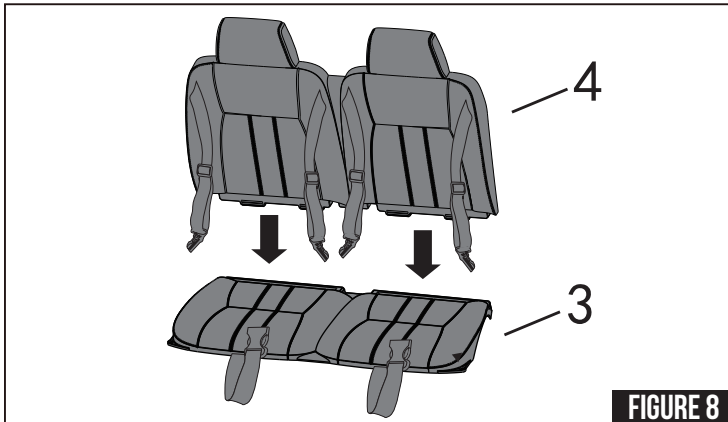

FIGURE 8
- To complete the seat assembly. Connect Backrest [4] together with Seat [3] together as shown in Figure 8 above.